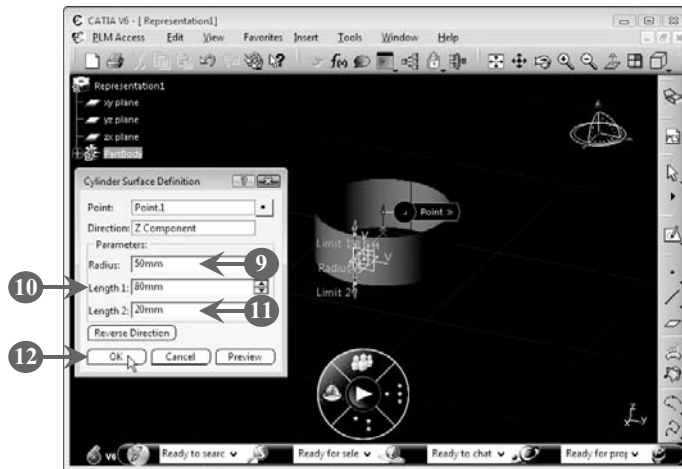

FIGURE 5.50
- Enter* a value representing the radius for the cylindrical surface in the **Radius** box in the **Parameters** group (Figure 5.50). In our case, we have entered **50 mm**.
10. Enter a value representing the height of the cylindrical surface with respect to the center of the cylindrical surface in the **Length 1** box in the **Parameters** group (Figure 5.50). In our case, we have entered **80 mm**.
11. Enter a value representing the depth of the cylindrical surface with respect to the center of the cylindrical surface in the **Length 2** box in the **Parameters** group (Figure 5.50). In our case, we continue with the default value, **20 mm**.
12. Click the **OK** button to close the **Cylinder Surface Definition** dialog box, as shown in Figure 5.50: